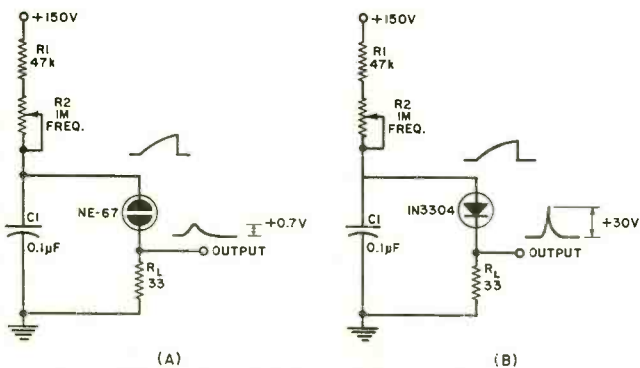

Fig. 1. (A) Neon lamp, (B) 4-layer diode relaxation oscillators.
Fig. 1. Typical a.c.-d.c. phono-amplifier heater string circuit using (A) a dropping resistor and (B) a diode replacement for dropping input line voltage to obtain the value required for the sum of the individual heater voltages.